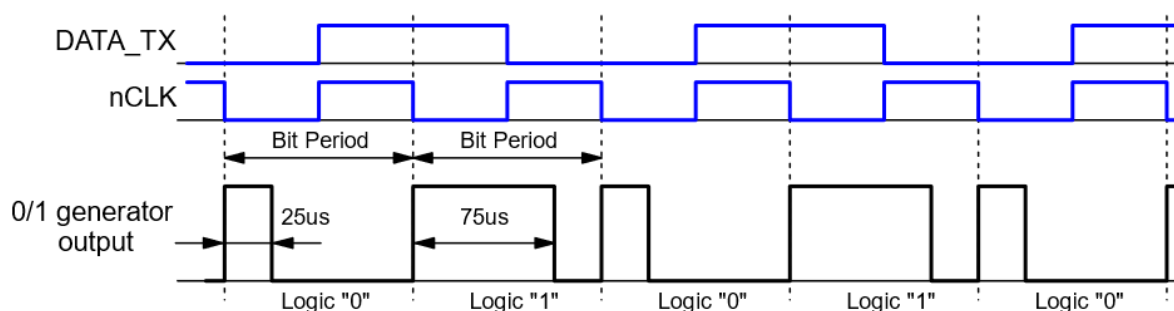

Figure 5: 0/1 coding
4. 0/1 generator - Bits stored in SHRs are converting to the time-dependent pulses. "0" is converted to a 25us pulse and "1" is converted to a 75us pulse. The converted bits duration is shown in Figure 5 (more details can be found in Cookbook Technique: Sending Serial Protocols Using Duty Cycle Detection [8]).